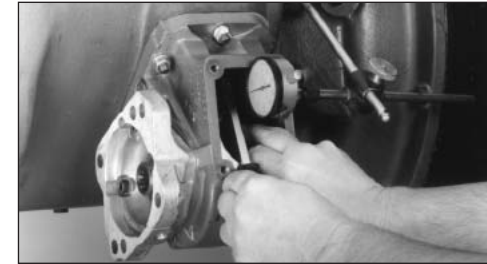

Fig. 10
2. Mount the dial indicator so that it registers movement of the input gear (driven gear) of the PTO (Fig. 10).